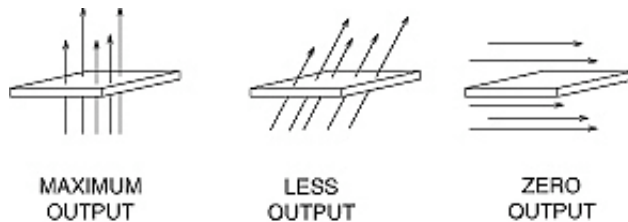

Figure 3-22
4) One of the most common sources of error is the angular position of the probe with respect to the field being measured. As mentioned in Section 1, a Hall generator is not only sensitive to the number of flux lines passing through it but also to the angle which they pass through it. The Hall generator produces the greatest signal when the flux lines are perpendicular to the sensor as shown in Figure 3-22.